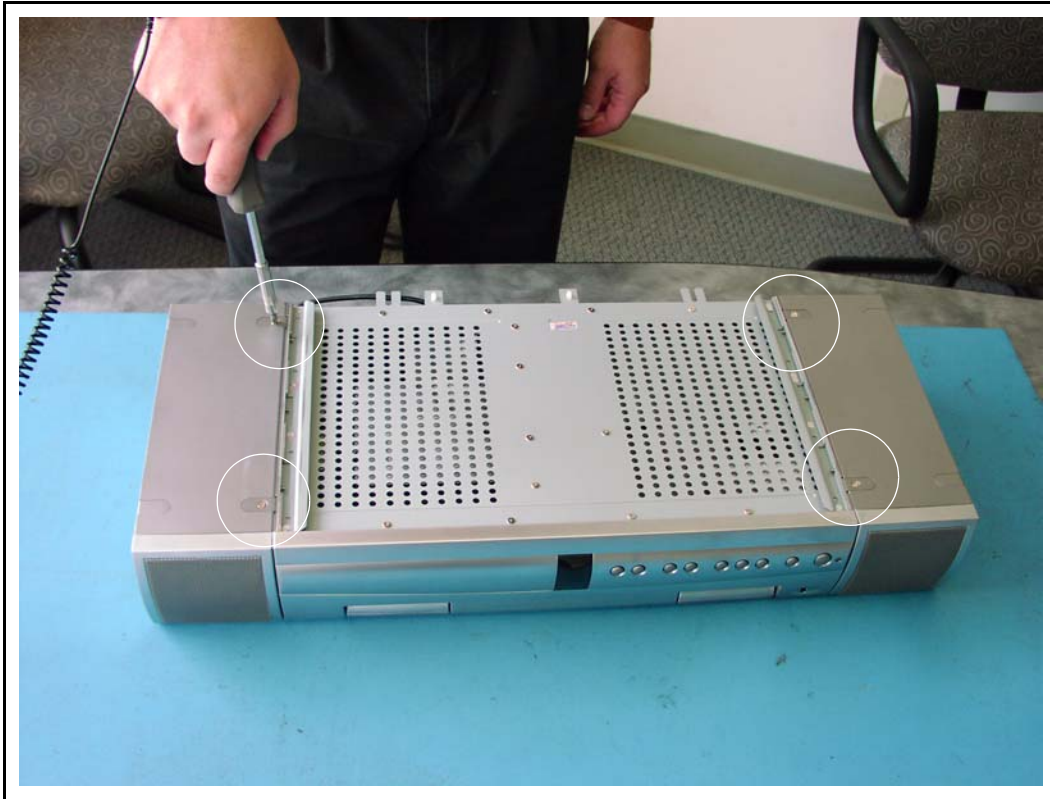

FIGURE 4. Removing the speakers (top view)
2. Replace the speaker, then replace the phillips-head, flat head sheet metal screws depicted in (Figure 3 on page 55 and Figure 4 on page 56).